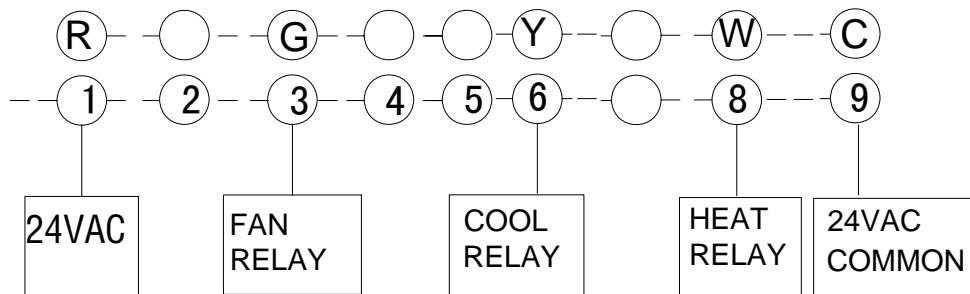

Figure 4
2. Connect wires beneath terminal screws on power supply module using appropriate wiring schematic. See figure 4
5. Replace control panel on the power base and fix power base and control panel by removed two screws in item 1